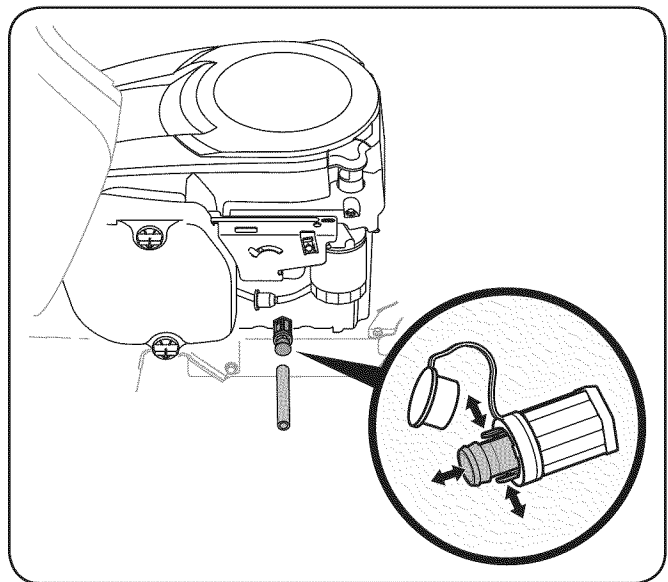

Figure 6-2
3. Pop open the protective cap on the end of the oil drain valve to expose the drain port. See Fig 6-2.
6. Pinch the tabs on the oil drain valve, then pull outward to begin draining oil. See Fig 6-2.